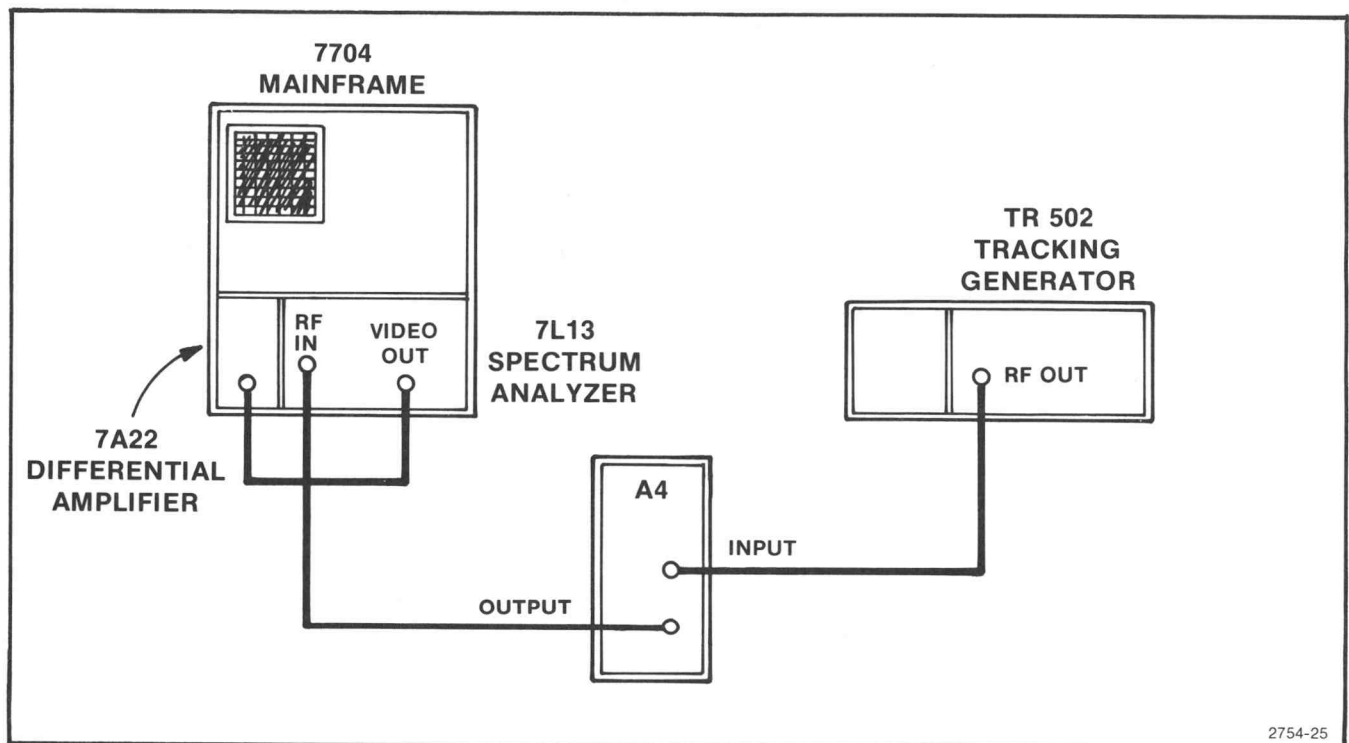

Fig. 4-14. Test Setup for Adjusting the 1st IF Bandpass Filters.
b. Refer to Fig. 4-14. Disconnect the cable connected to P85 on A3 First Mixer board, and connect it to the tracking generator output using a bnc-to-Conhex adapter cable. Disconnect the cable connected to P03 on A5 1st IF Amp board, and connect it to the spectrum analyzer **rf** input using a bnc-to-Conhex adapter cable.